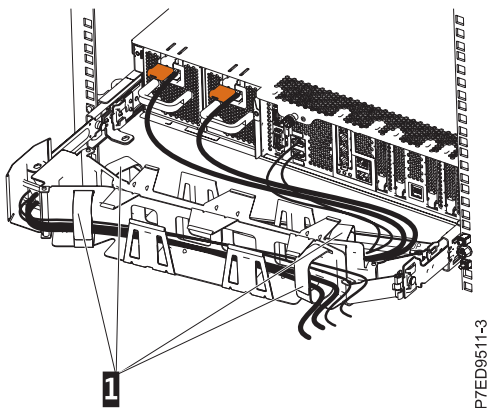

Figure 18. Routing and attaching the power cord
8. Route the power cords and other cables (including keyboard, monitor, and mouse cables, if required) on the cable-management arm (1), as shown in Figure 18. Attach all cables to the rear of the server except for the power cord. Secure the cord and cables with cable ties or hook-and-loop fasteners.